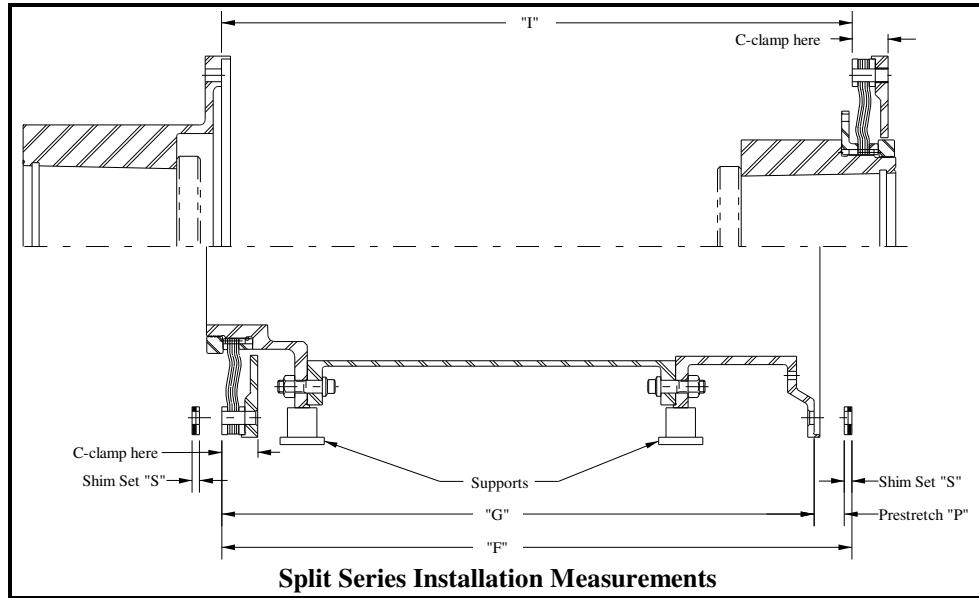

Figure 4-10
4.4.4.1 When installing and servicing a split series coupling, refer to the relative section for each series involved. For example, an RR/RM coupling: refer to Paragraphs 4.4.1, 4.5.1, and 4.7.1 for information relating to the RR end and refer to Paragraphs 4.4.2, 4.5.2, and 4.7.2 for information relating to the RM end (see Figure 4-10).